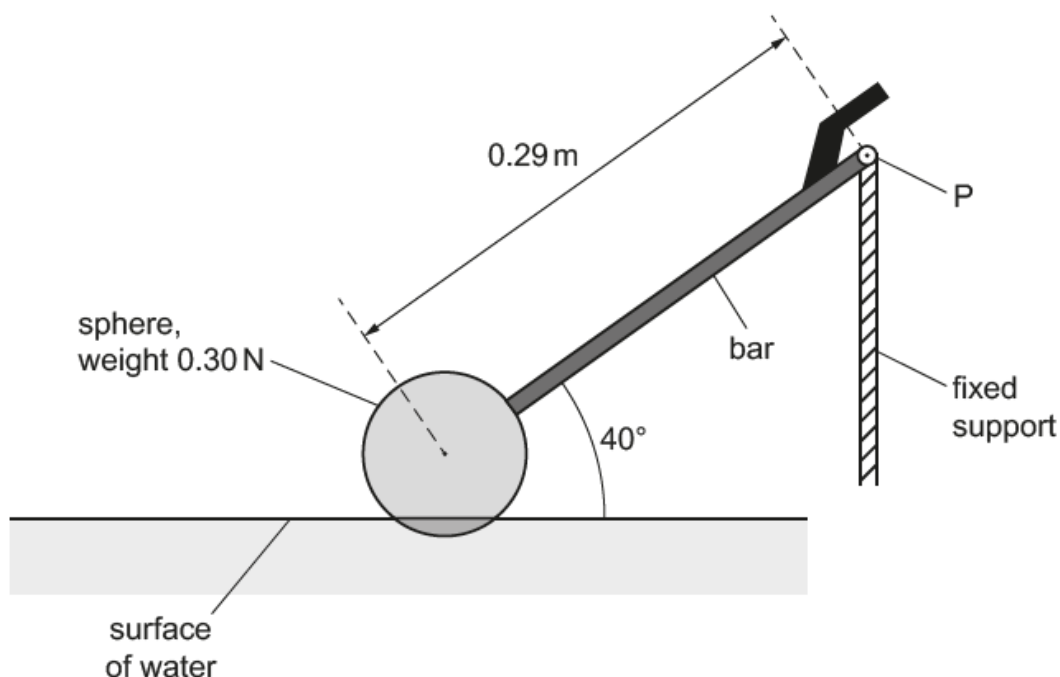

Fig. 3.1 (not to scale)
- (b) A hollow plastic sphere is attached at one end of a bar. The sphere is partially submerged in water and the bar is attached to a fixed vertical support by a pivot P, as shown in Fig. 3.1.
- (c) The system shown in Fig. 3.1 is part of a mechanism that controls the amount of water in a tank.